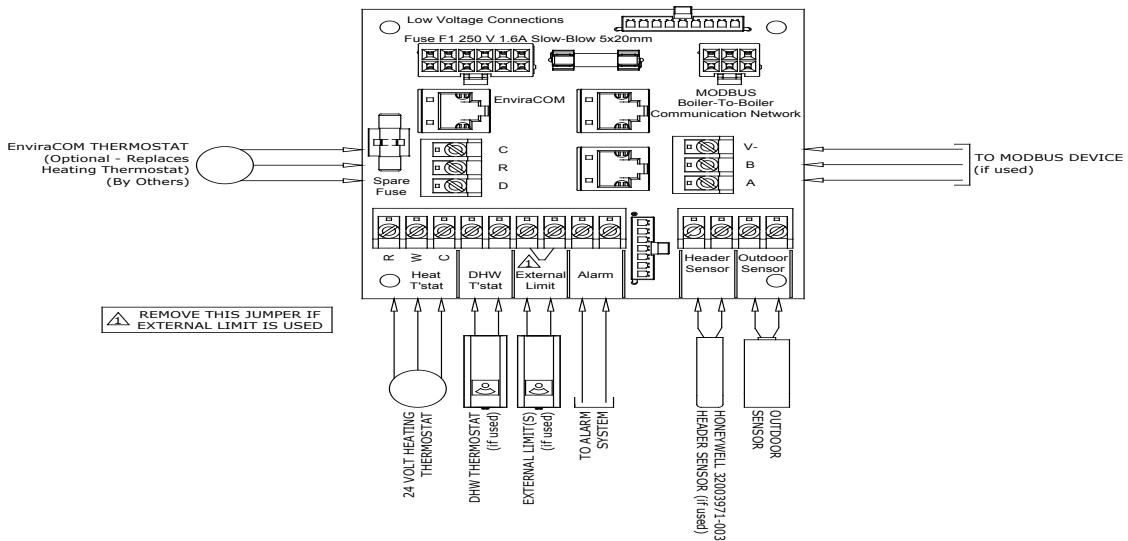

Figure 10.3: Low Voltage PCB Terminal Connections
This boiler is equipped with a listed high water temperature limit function. This limit provides boiler shutdown in the event the boiler water temperature exceeds the set point of the limit control. Certain Local Codes require an additional water temperature limit. If necessary, install an additional water temperature limit such as a Honeywell L4006 Aquastat. Wire as indicated in Figure 10.3.
- 2) Low Voltage Field Connections – Low voltage field connections on the low voltage PCB are shown in Figure 10.3 and are listed from top to bottom:
- DHW T’Stat - 24VAC domestic hot water thermostat (1)
- DHW T’Stat - 24VAC domestic hot water thermostat (2)
- External Limit - Field supplied low voltage safety limit contacts (1)
- External Limit - Field supplied low voltage safety limit contacts (2)
- Alarm Contact (1)
- Alarm Contact (2)
- Outdoor Sensor - Tasseron TSA00AA Outdoor Temperature Sensor (1)